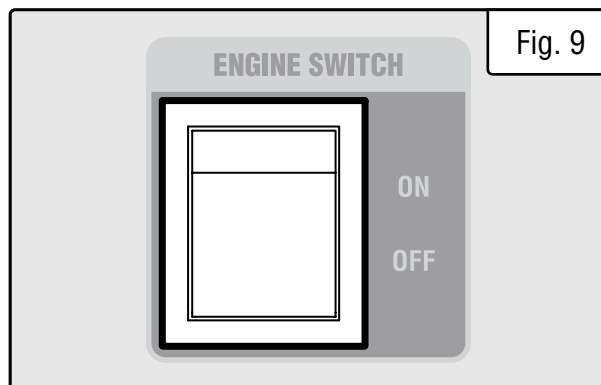

Fig. 9
3. Push the engine switch (Fig. 9) to the ON position.